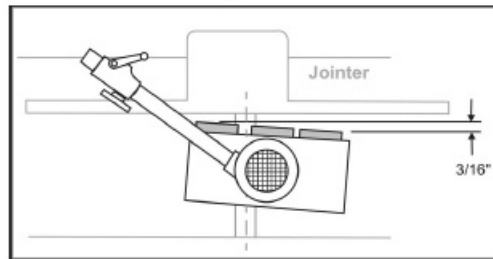

Figure 21
1. Mount the 3-roller stock feeder on a jointer so that the cutterhead is between the outfeed roller and the center roller (Figure 21). The 4-roller stock feeder can be positioned so that the cutterhead is between the center rollers
3. Rotate the Stock Feeder so that the direction of feed is angled slightly toward the fence by approximately  $3/16"$  (5mm); that is, the outfeed roller should be slightly closer to the fence than the infeed roller. See Figures 21 and 22.